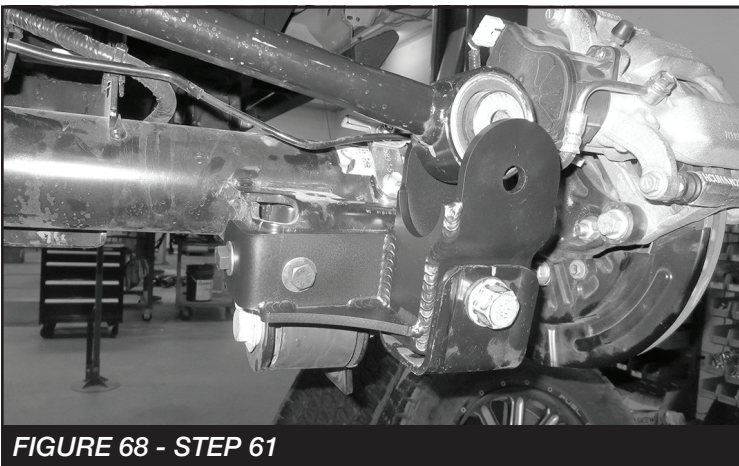

FIGURE 68 - STEP 61
61. Reinstall the new Fabtech bracket using the factory bolt and the supplied 7/16" x 1-1/4" hardware. Torque the factory bolt to 160 ft-lbs and the 7/16" hardware to 65 ft-lbs. **SEE FIGURE 68**